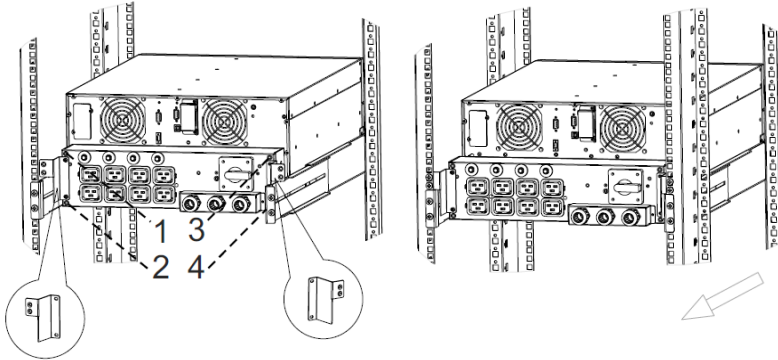

Figure 38: Removing the XANTO S 10000, step 2/3
2. Secure the PDU with the support bracket to the rack and disconnect this from the UPS system. Unscrew the four screws to do this (see Figure 38).